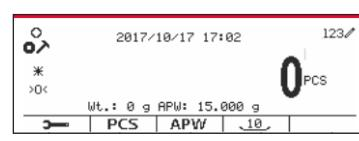

Figure 45
- After editing, press the softkey corresponding to the  icon for confirmation, and then press the softkey corresponding to the  icon to exit the submenu. (See Figure 45)